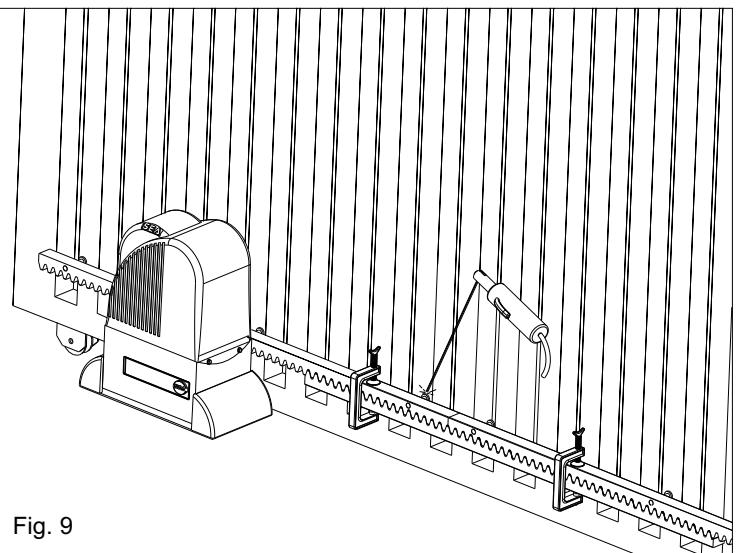

Fig. 9
**5.4.** Make sure that all the gear rack elements are perfectly aligned and placed correctly (teeth in phase). It's suggested to place two aligned elements in front of a third one as shown in Fig. 9;